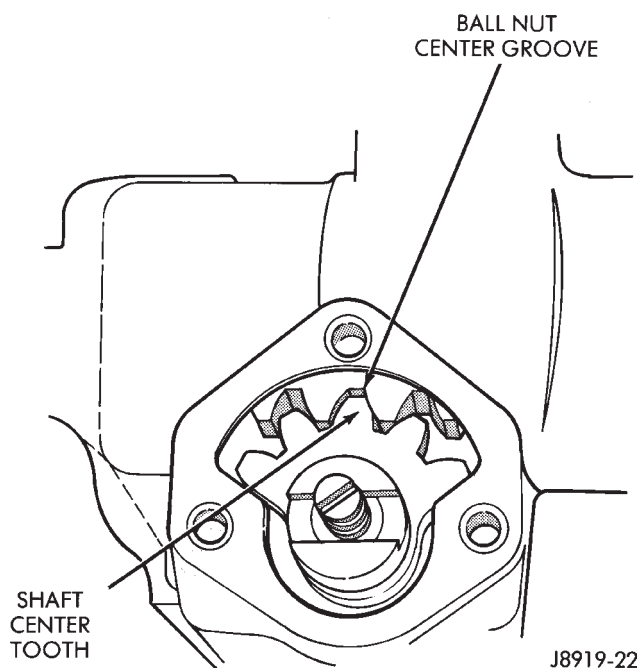

Fig. 12 Pitman Shaft & Ball Nut Engagement
(9) Place the ball nut (Fig. 12) in the centered position, rotate the wormshaft from stop-to-stop and count the number of rotations. Rotate wormshaft in the reverse direction 1/2 of the number of rotations to center the ball nut.